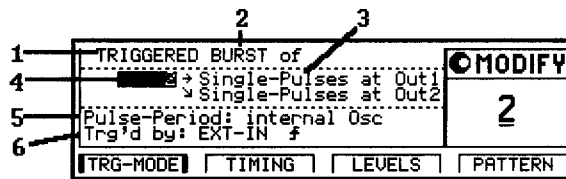

Figure 3-3. Typical TRG-MODE screen
- Select between Single and Double-pulses per pulse-period for each OUTPUT (See **3** in Figure 3-3):
- If the HP 81106A PLL/External clock is fitted, select the pulse-period source (See **5** in Figure 3-3):
- Select the number of pulse-periods per burst in the range 2 - 65536 (See 4 in Figure 3-3).
- Select between Single and Double-pulses per pulse-period for each OUTPUT (See 3 in Figure 3-3):
- If the HP 81106A PLL/External clock is fitted, select the pulse-period source (See 5 in Figure 3-3):
- Select between RZ and NRZ data pulses for each OUTPUT (See **3** in Figure 3-3):
- Single pulse-periods are triggered by (Trig'd by) an active edge at the selected arming source (See 6 in Figure 3-3):
- A burst of pulse-periods is triggered by (Trg'd by) an active edge at the selected arming source (See 6 in Figure 3-3):